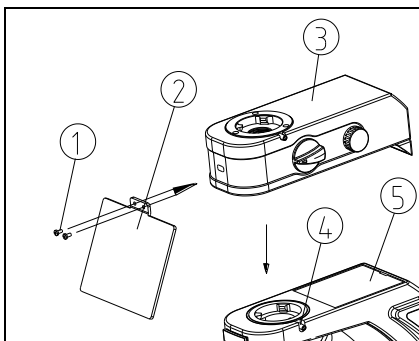

Fig. 32
1. Fix the light shield ② on the LED fluorescence illuminator ③ with the screw ①. (See Fig. 32)
2. Put the LED fluorescence illuminator ③ on the arm ⑤, and fix it with the lock screw ④ by the hexagon spanner. (See Fig. 32)